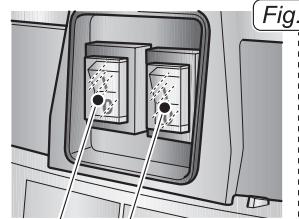

Fig. 15
- Press the switch (30 Fig.15) to position "I" to start the vacuum engine; lights, if located on the switch will turn on.
- Depending on the power required it is possible to start only one motor by pressing the switch (30 Fig. 15) on "I" or both switches (30 e 31 Fig. 15) if a greater suction force is required.